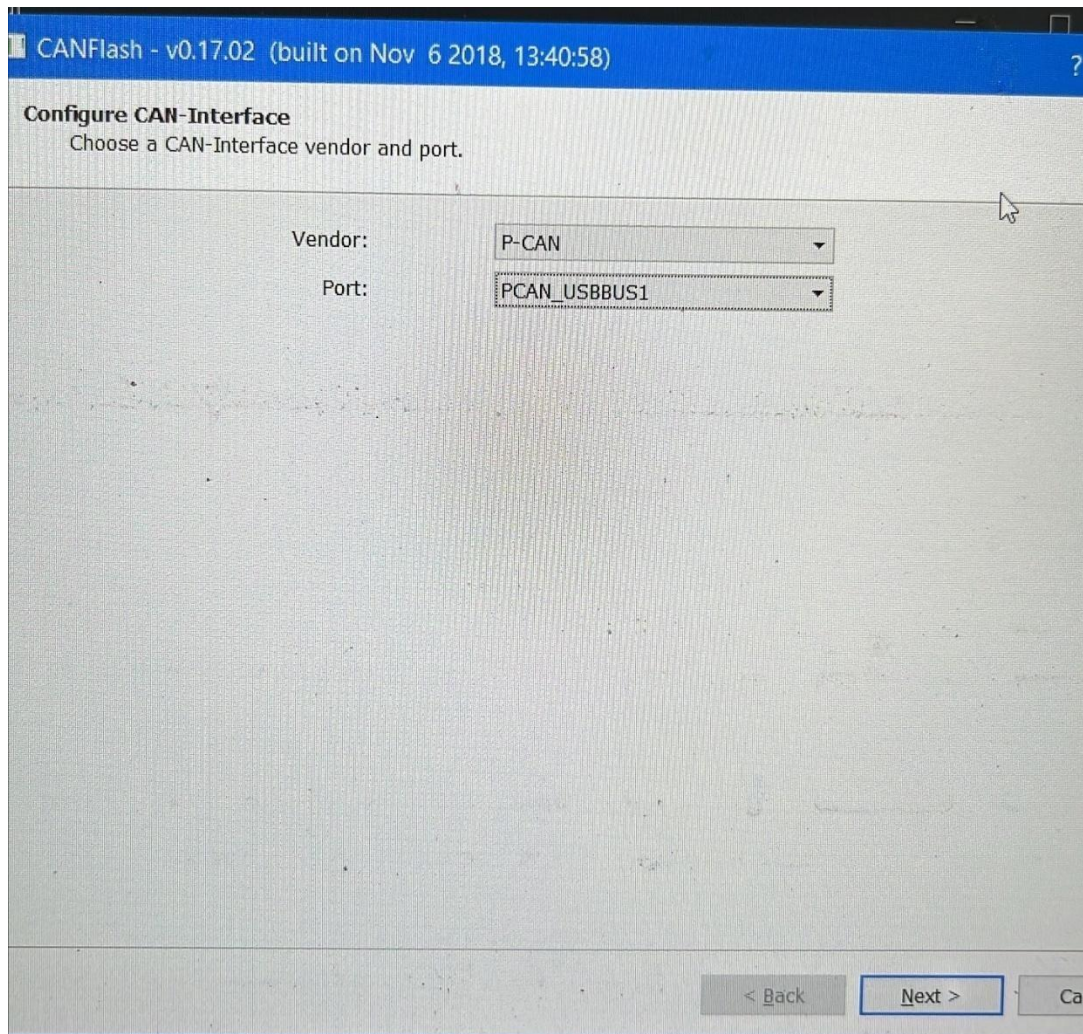

Figure 4: CANFlash PCAN setting
29. Once CANFlash is open, select **P-CAN** under the Vendor drop-down menu. Select **PCAN_USBBUS1** under the Port drop-down menu (see figure 4 below). It's important to ensure the physical connection to the laptop matches the same port as dictated by the CANFlash setup. Click **Next** when complete.
37. Once CANFlash is open, select **P-CAN** under the Vendor drop-down menu. Select **PCAN_USBBUS1** under the Port drop-down menu (see figure 4 above). It's important to ensure the physical connection to the laptop matches the same port as dictated by the CANFlash setup. Click **Next** when complete.